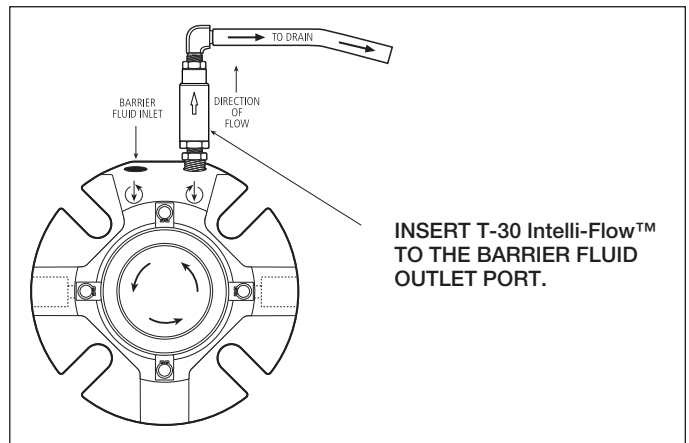

Figure 2 - T-30 Intelli-Flow™ Installation
3. Install the T-30 Intelli-Flow™ WATER SAVER in the outlet barrier fluid port of the Chesterton dual seal gland. Reference Figure 2.